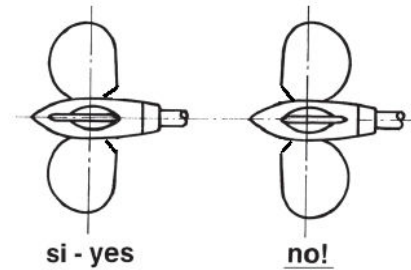

Fig. 2
- d) Move the blades into the feathered position, making sure that the rounded trailing edges of the blades are aft as shown in fig. 2.
- In the feathered position the blades must be perfectly lined up and set like fig. 2